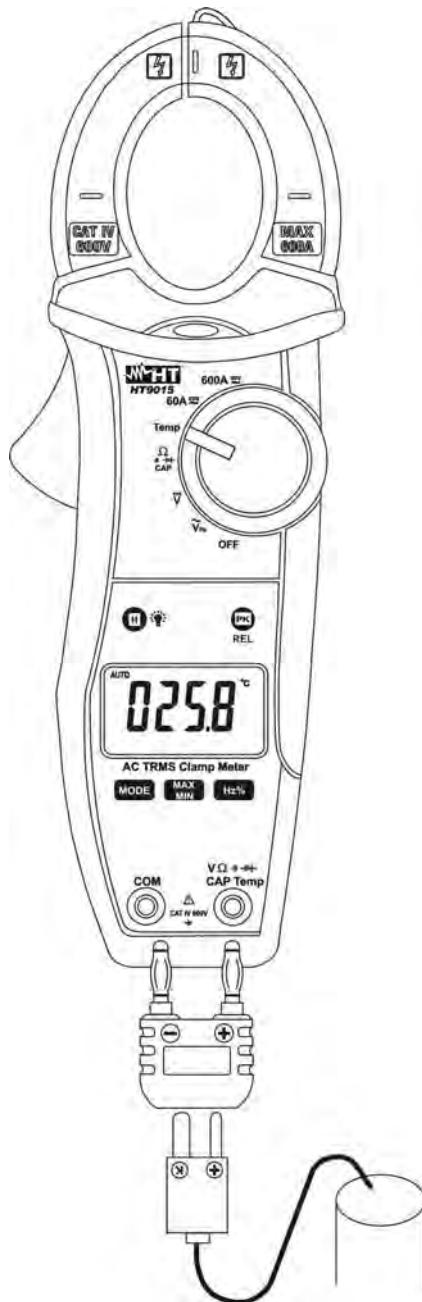

Fig. 8: Taking Temperature measurement
3. Insert the type K bead probe in **VΩCAPHz%Temp** and **COM** inputs terminals using the standard adapter and observing the correct polarity (see Fig. 8). The temperature value is shown at display